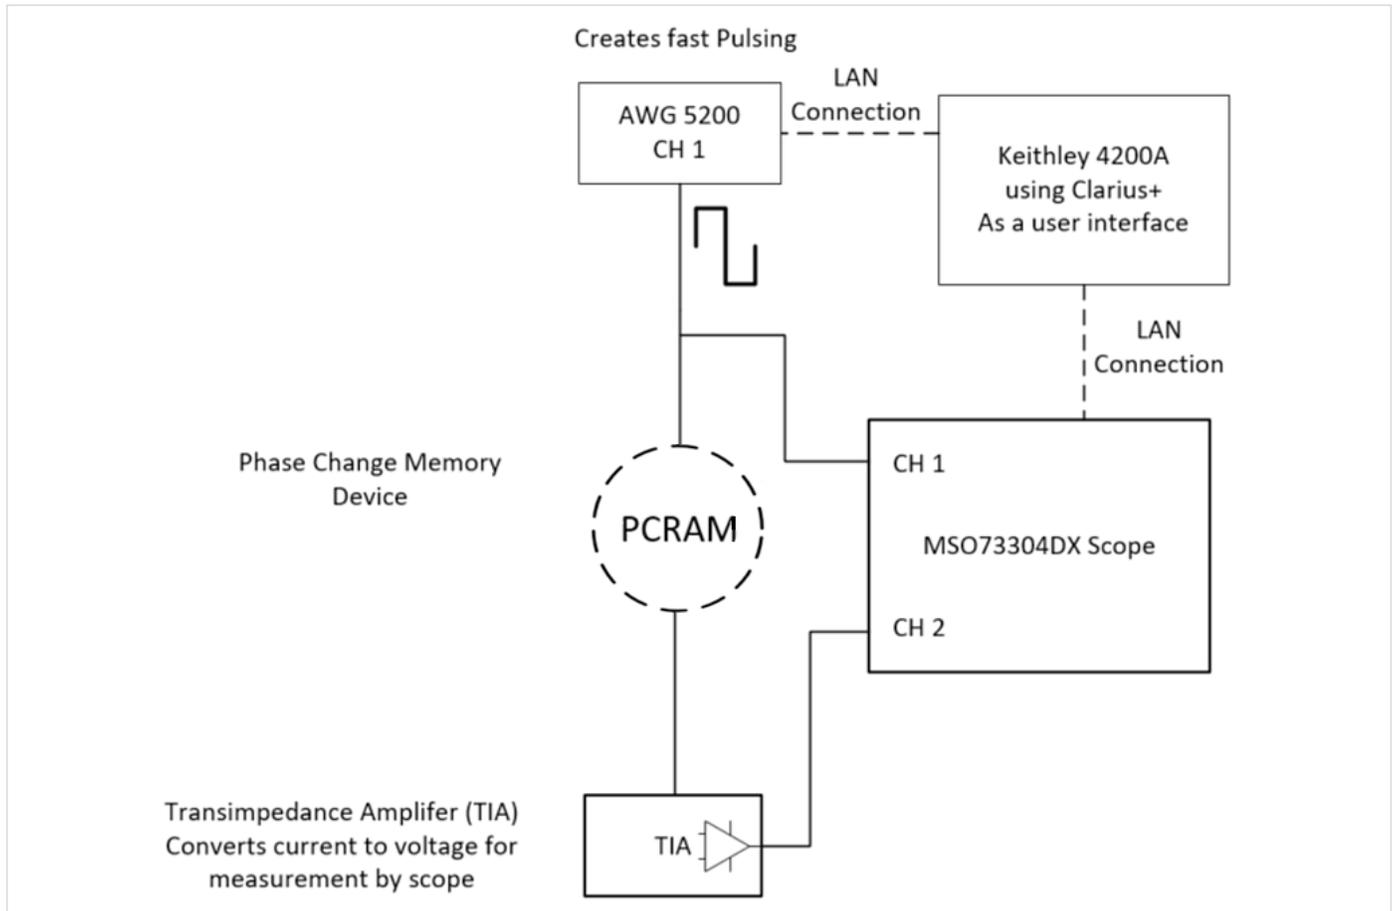

Figure 10: Fast pulsing solution using the TIA.
**Figure 10** shows the PCRAM test setup with the Tektronix solution using a TIA. These memory cells are typically two-terminal devices. A constant voltage pulse is passed from the waveform generator through the whole circuit. The voltage pulse was measured before passing it through the memory cell. The current through the cell is then converted to voltage via the TIA and measured by the scope while the voltage pulse was applied. The voltage drop across the memory cell was then calculated by taking the difference between the voltages measured. The transient current was calculated, thereby allowing the transient resistance of the memory cell to be calculated.
A 1 kΩ resistor was used in series with the function generator. The output was then connected to an oscilloscope, just as shown in **Figure 10**.